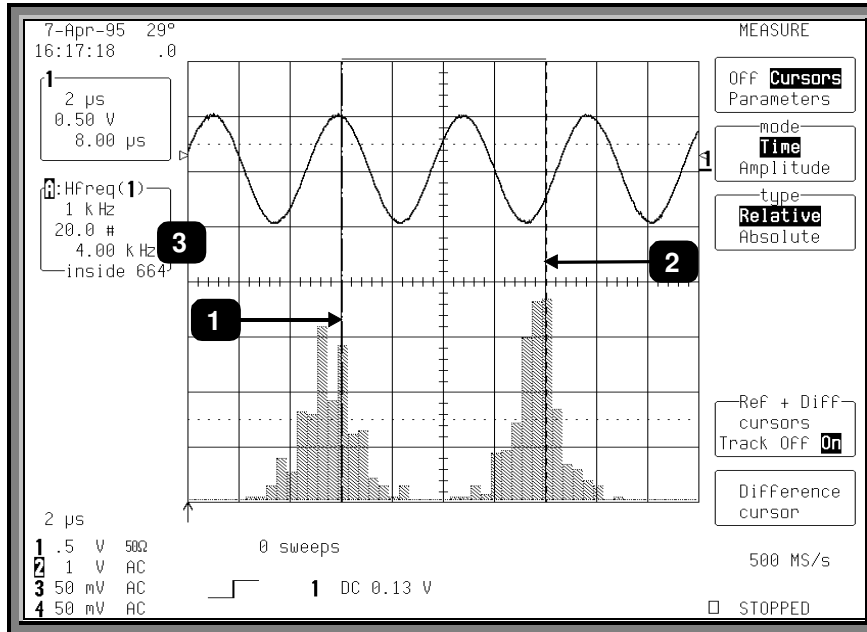

Figure 1.6
Finally, Figure 1.6 shows the use of the measurement cursors (Items ❶ and ❷) in determining the difference in frequency between a bin in the center of each distribution. The value in kHz, in the Displayed Trace Field, is indicated by ❸.